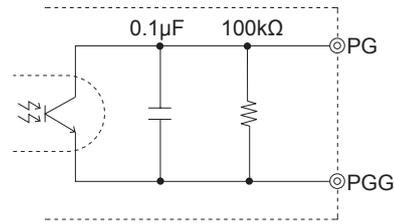

Fig.3.9 Internal circuit of PG
3.8 Power good (PG)
■PG circuit is designed as shown in Fig.3.9. Sink current of PG is 15mA max.